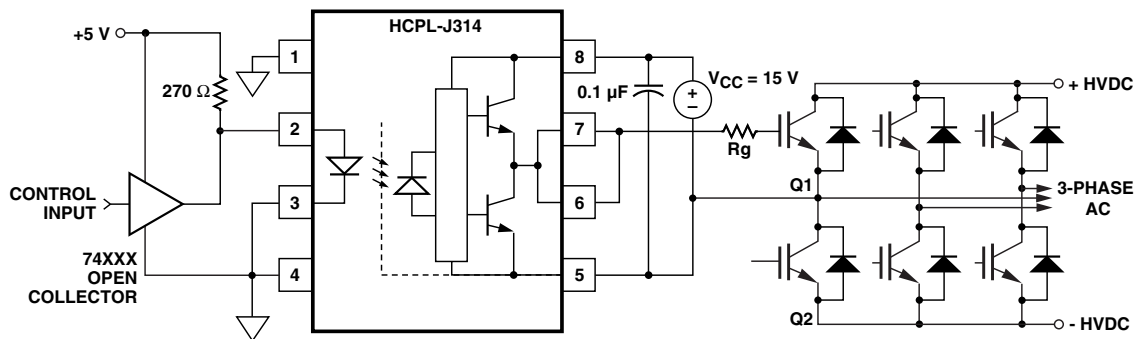
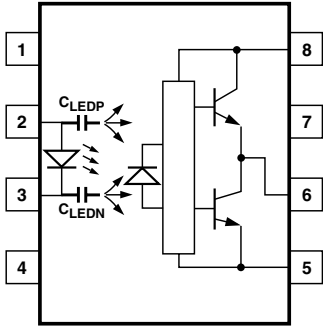
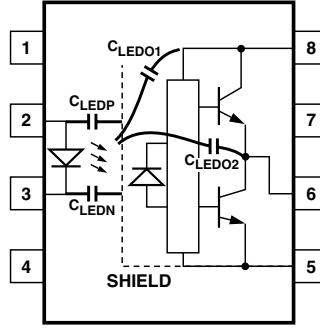

Figure 19. Recommended LED Drive and Application Circuit for HCPL-J314.
Figure 21. Optocoupler Input to Output Capacitance Model for Unshielded Optocouplers.
Figure 22. Optocoupler Input to Output Capacitance Model for Shielded Optocouplers.
eliminate the need for negative IGBT gate drive in many applications as shown in Figure 19. Care should be taken with such a PC board design to avoid routing the IGBT collector or emitter traces close to the HCPL-J314 input as this can result in unwanted coupling of transient signals into the input of HCPL-J314 and degrade performance. (If the IGBT
Step 1: Calculate R_g minimum from the I_{OL} peak specification. The IGBT and R_g in Figure 19 can be analyzed as a simple RC circuit with a voltage supplied by the HCPL-J314.
where $K_{ICC} \cdot Qg \cdot f$ is the increase in I_{CC} due to switching and K_{ICC} is a constant of 0.001 mA/(nC*kHz). For the circuit in Figure 19 with I_F (worst case) = 10 mA, R_g = 32 Ω, Max Duty Cycle = 80%, Qg = 100 nC, f = 20 kHz and T_{AMAX} = 85°C:
Without a detector shield, the dominant cause of optocoupler CMR failure is capacitive coupling from the input side of the optocoupler, through the package, to the detector IC as shown in Figure 21. The HCPL-J314 improves CMR performance by using a detector IC with an optically transparent Faraday shield, which diverts the capacitively coupled current away from the sensitive IC circuitry. However, this shield does not eliminate the capacitive coupling between the LED and optocoupler pins 5-8 as shown in Figure 22. This capacitive coupling causes perturbations in the LED current during common mode transients and becomes the major source of CMR failures for a shielded optocoupler. The main design objective of a high CMR LED drive circuit becomes keeping the LED in the proper state (on or off) during common mode transients. For example, the recommended application circuit (Figure 19), can achieve 10 kV/μs CMR while minimizing component complexity.
supplied by the LED, and it is not recommended for applications requiring ultra high CMR₁ performance. The alternative drive circuit which like the recommended application circuit (Figure 19), does achieve ultra high CMR performance by shunting the LED in the off state.